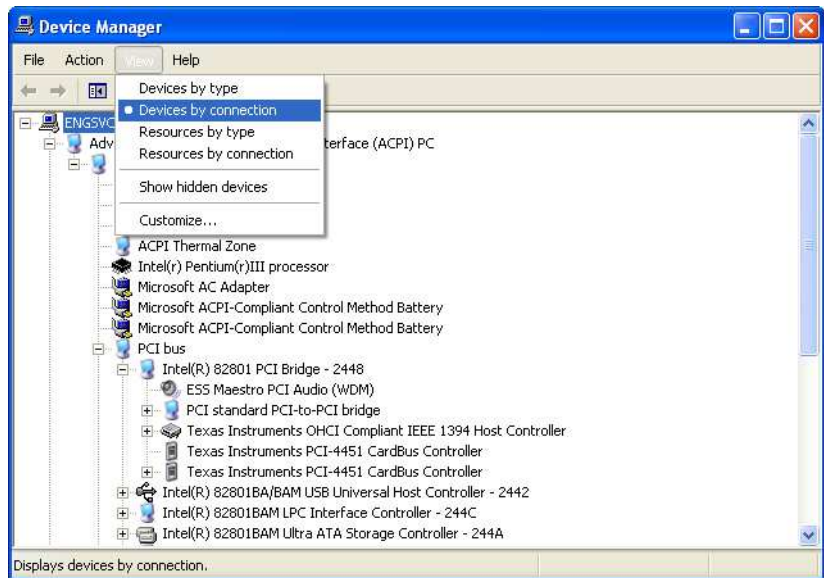

Figure C-1. Devices by Connection Menu in Device Manager
1. Go to **Windows Device Manager»View»Devices by connection**, as shown in Figure C-1.